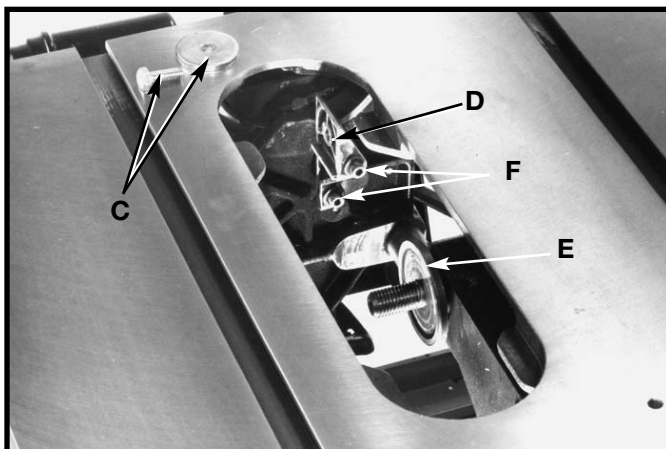

Fig. 27
5. If alignment is necessary, loosen the two screws (F) Fig. 27, align bracket (D) with the arbor flange (E), and **tighten screws (F).**
6. Loosely assemble large washer and bolt (C) Fig. 27, to the inside splitter bracket. This bolt and washer was removed in **STEP 3.**